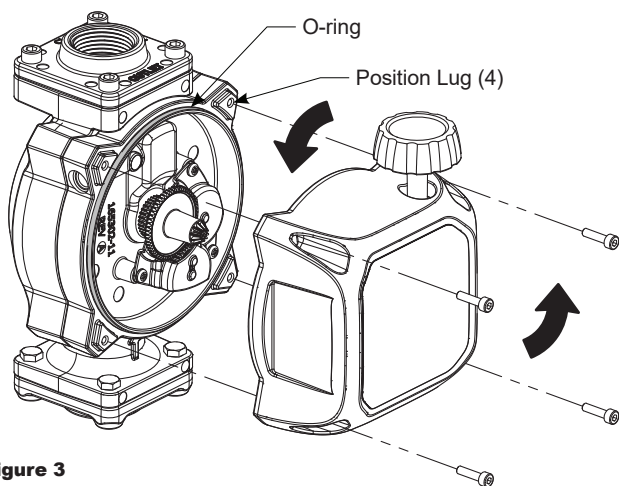

Figure 3
1. Using a 3mm L-hex wrench, remove the (4) screws that hold register in place
2. Rotate the register to the desired orientation, making sure the O-ring is fully seated (see Figure 3).
3. Reattach the register using the (4) screws previously removed (see Figure 3).